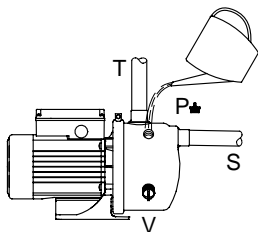

Fig. 2 Filling the pump with water
The ejector valve is supplied loose with the pump. Remove the plug (V), see fig. 2, and fit the ejector valve into the hole. Tighten the valve using fingers only.
1. Remove the plug (P). See fig. 2.